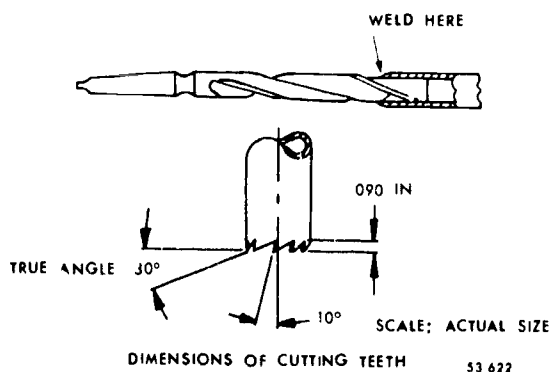

Figure 6-11. Trepanning tool.
*Trepanning.* Another type of drilling that can be used to remove damaged studs is called trepanning. Trepanning is generally used when the parent metal around the stud has become so damaged that it is impossible to save the threads. You should use trepanning only as the last resort, since it involves making a replacement insert or installing a stud with oversize threads. Since commercial trepanning tools are not available, you will have to manufacture the cutter. Trepanning tools (see fig. 6-11) can be made to fit nearly any size of stud. The tool works like a hollow mill. The disadvantage of trepanning is that the original threads in the parent part are destroyed and oversize threads must then be tapped into the parent part. You should use this method only when there is absolutely no possibility of replacing the damaged stud with a standard-sized stud.